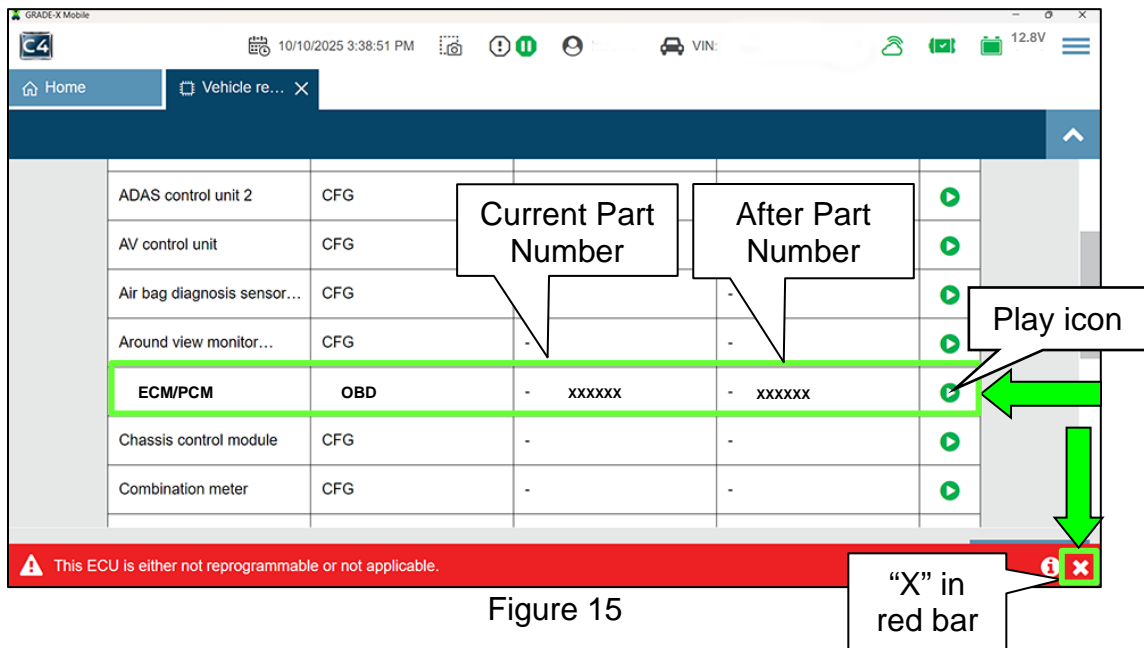

Figure 15
- a. Verify ECM/PCM Current and After part numbers are Present, as shown in Figure 15.
- b. Select the “X” at the bottom RH corner, as shown in Figure 15.
- c. Select the “Play” icon for **ECM/PCM**, as shown in Figure 15.
18. Confirm if the **VIN**, **Current part number**, and **Part number after programming** are correct as shown in Figure 15 on page 11, and then select **Next**.
29. Confirm “Previous” and “Current” part numbers match the part numbers shown in Figure 15 on page 11, and then select **Complete**.